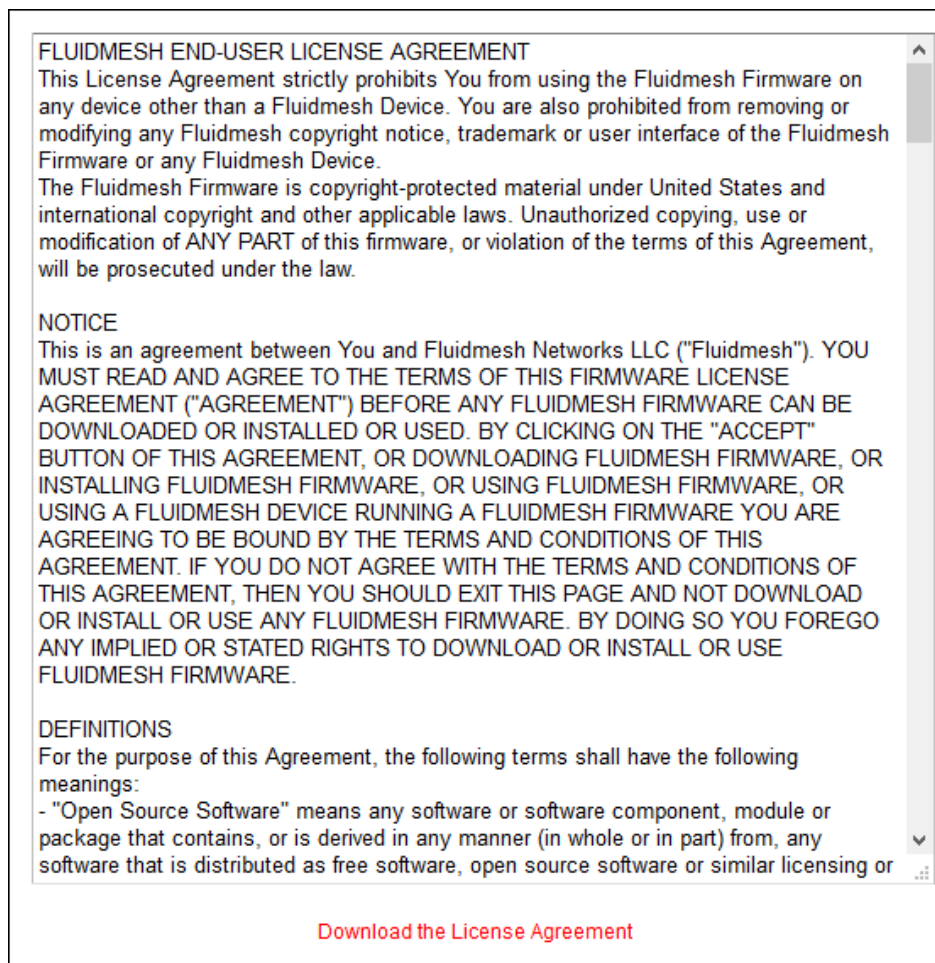

Figure 49. Configurator GUI (End-user license agreement)
- The license agreement dialog will be shown (Figure 49 \(page 99\)).